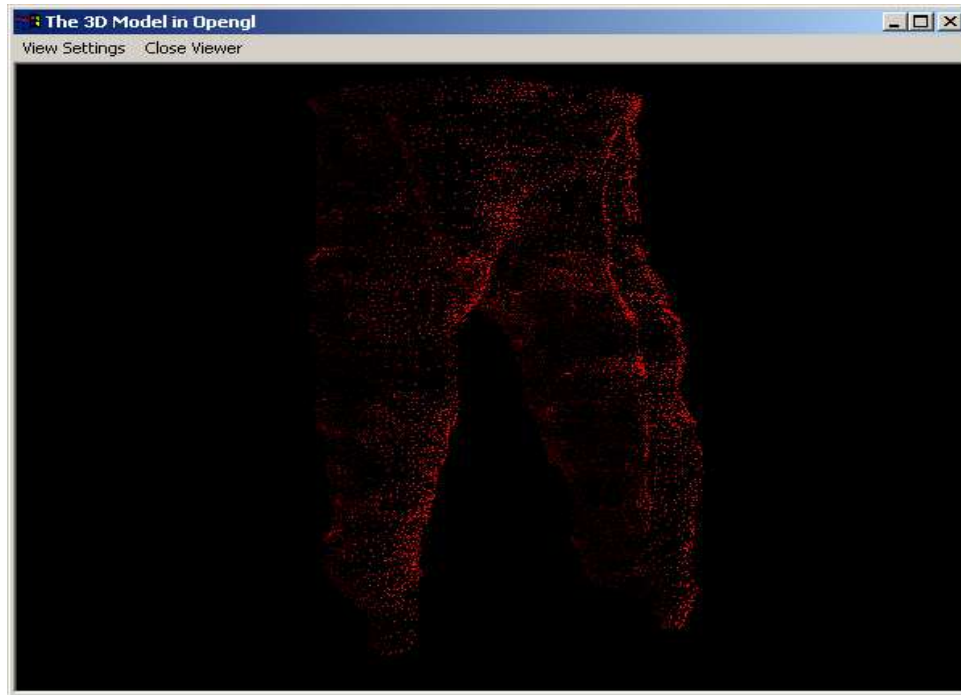

Figure 10: Vertex display of a 3D surface model.
*Vertices* command: It displays only the vertices of a 3D model (Figure 10).